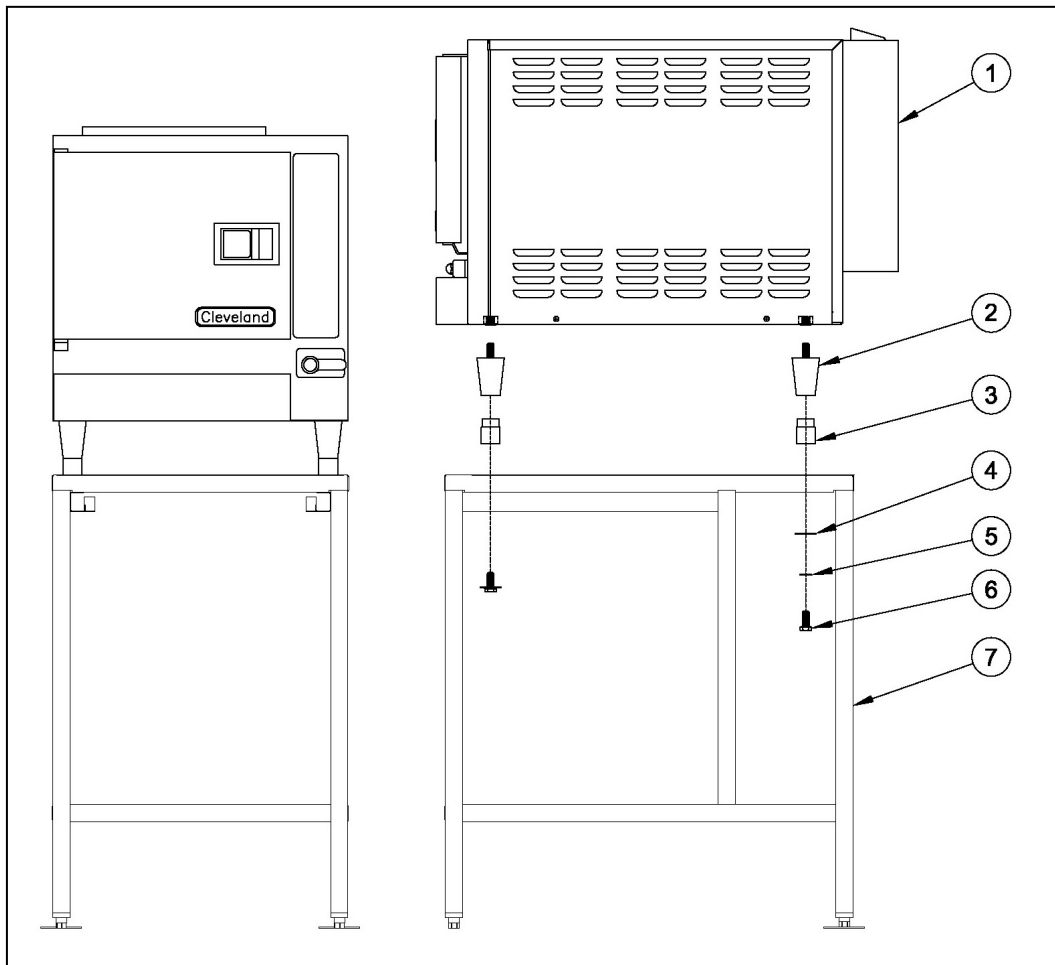

Figure 9
6. Secure steamer to stand according to the instructions in Figure 9 on Page 10.